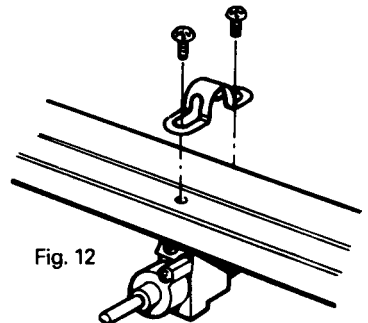

Fig. 12
3. Remove the two screws securing the tap to the gas rail and remove saddle bracket (see Fig. 12).